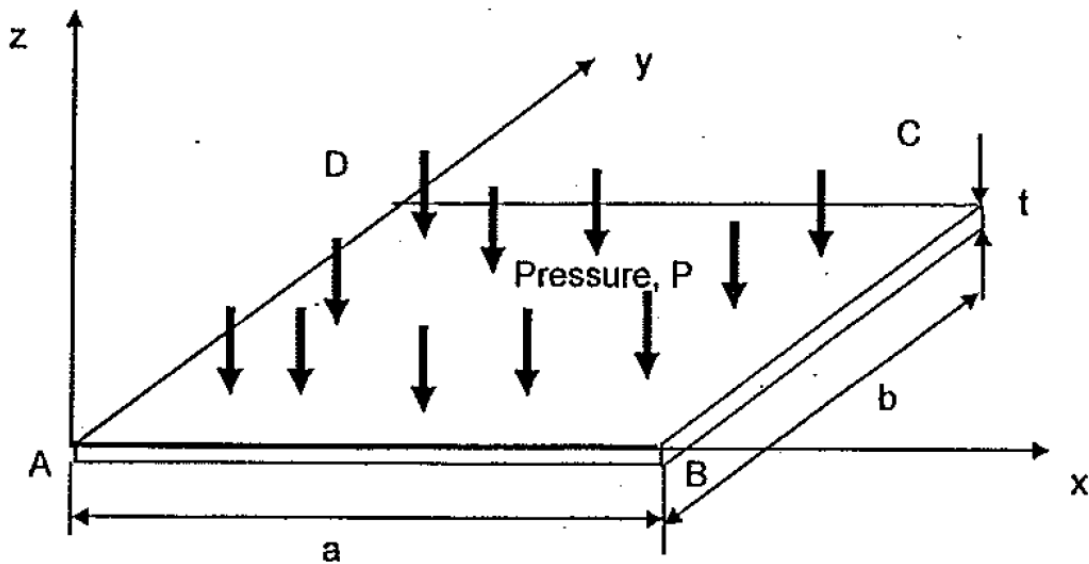

Figure Q2
- Q2. Figure Q2 shows a rectangular plate ABCD of uniform thickness t which is rigidly clamped at the edges $x = 0$ (i.e. AD) and $y = 0$ (i.e. AB) and free along the edges $x = a$ (line BC). The plate is loaded by a uniform transverse pressure p (in the z -direction). The transverse displacement w , can be approximated by the following expression: